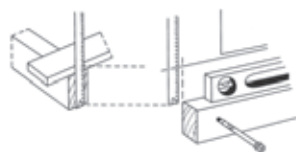

Fig 8 Measure decking and joist thickness.
■ Measure the thickness of your decking, joist and bearers (Fig 8).
■ Against the house wall, measure the required thickness down from the intended floor height of the deck (Fig 8).
■ Fix a bearer at this level against the wall using Mungo bolts for masonry walls and coach screws for timber walls, both of which are available from your nearest Colli store (Fig 8). Use a bolt or screw every 450mm along the bearer to ensure stability. When fixing to a timber wall, try to screw into internal structural timbers whenever possible as this will provide added strength.